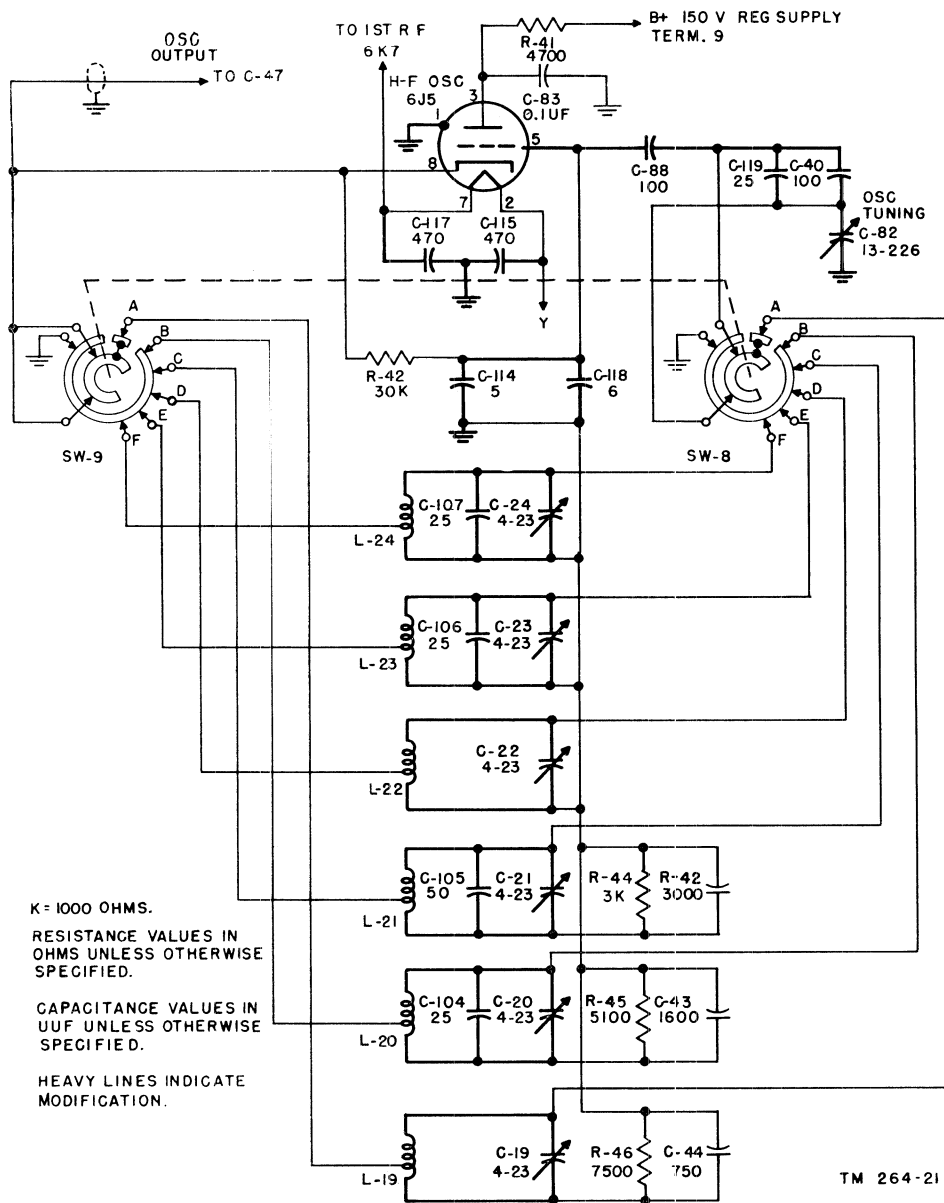

Figure 48. Radio Receiver R-336/GRC-26, h-f oscillator, schematic diagram.
a. MODIFICATION OF H-F OSCILLATOR STAGE (fig. 48). The h-f oscillator tube (V-4), a tube type 6C5, has been replaced by a tube type 6J5. In some cases, components of better temperature characteristics have been substituted, but theory of these items remains the same. The variable tuning capacitors connected across the grid coils on each band have been replaced with smaller variable capacitors of from 3 to 20 uuf (C-19, C-20, C-21, C-22, C-23, and C-24). On bands B, C, E, and F, temperature compensating capacitors C-104, C-105, C-106, and C-107, respectively, have been added in parallel with the variable capacitors to compensate for the reduced capacity and for the inductance change in the coils due to temperature changes. Oscillator coils L-19, L-22, and L-23 have been rewound, as necessary, for new circuit constants. Capacitors C-118 and C-114 are connected from the grid of the oscillator tube to ground to compensate for variations in the grid circuit due to temperature fluctuations. Capacitor C-40 was replaced with two ceramic type capacitors, a 100 uuf (reference symbol remains C-40) in parallel with a 25 uuf (C-119). Both sides of the r-f oscillator tube filaments were placed at r-f ground potential